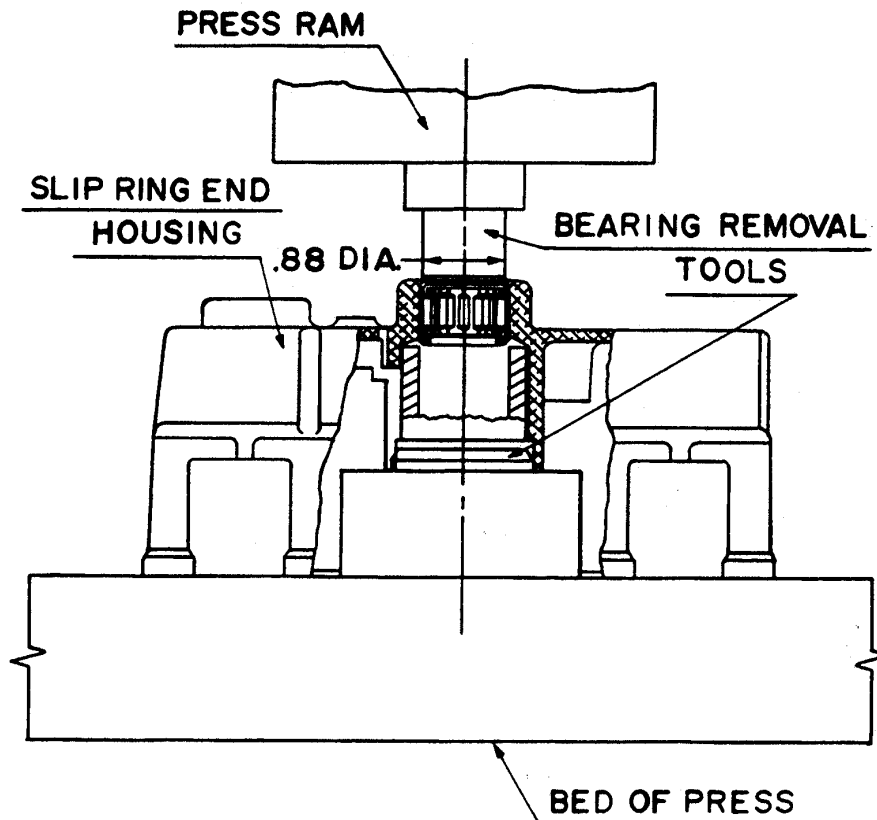

FIGURE 1
1. Place the slip-ring end housing (29) in an arbor press. Support the rear housing at the area directly below the bearing boss, as shown, to prevent breakage or distortion of the housing.
2. Use special tools or fabricate tools to the dimensions shown and press the roller bearing (37) from the outside. Discard the bearing (See Figure 1.)